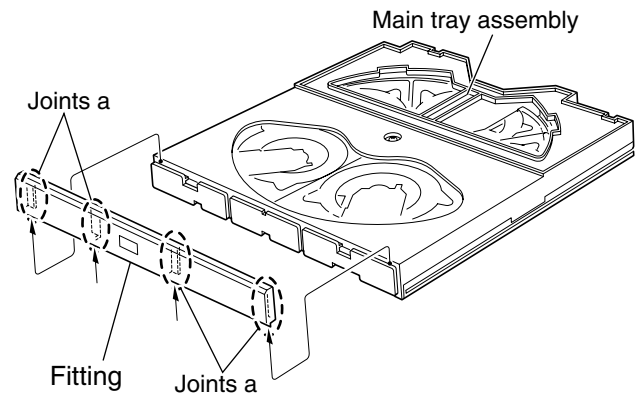

Fig.1
(See Fig.1 and 6)
(See Fig.1, 6 and 7)
■ Removing the fitting (See Fig.1)